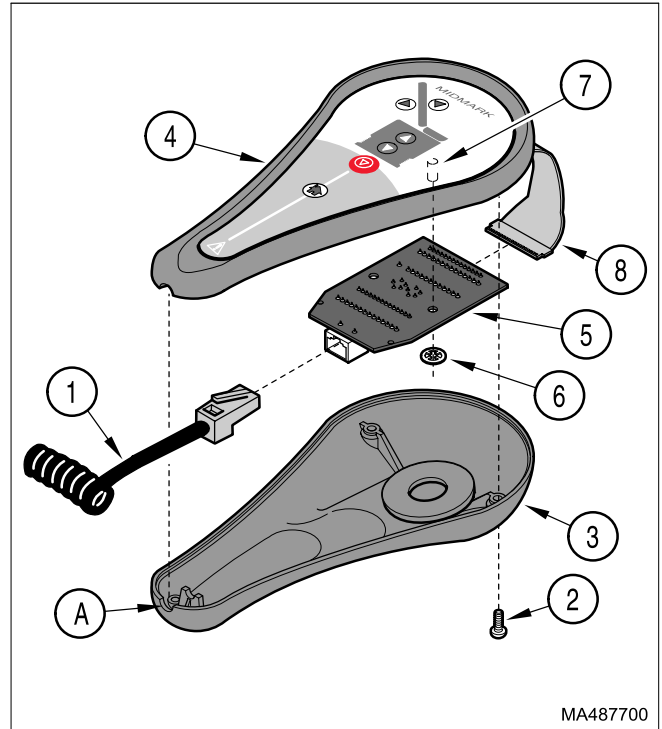

Figure 4-23. Hand Control Interface Board Removal / Installation (later units)
- (1) Disconnect hand control cord (1, Figure 4-23) from table.
- (2) Remove four screws (2) and hand control bottom (3) from hand control top (4).
- (3) Disconnect hand control cord (1) from interface board (5).
- (4) Using a small flat-bladed screwdriver, pry upward on two retaining rings (6) until they separate from two standoffs (7).
- (5) Disconnect ribbon connector (8) from interface board (5) and remove interface board.